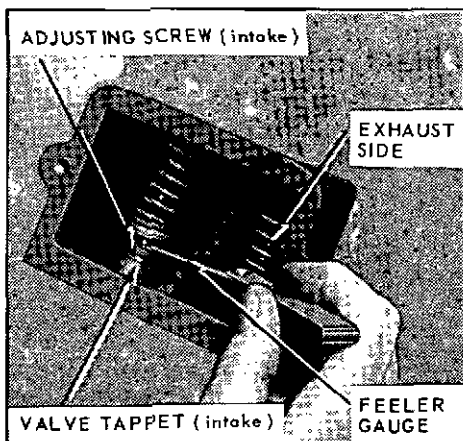

Fig. 14, VALVE TAPPET ADJUSTMENT
**VALVE TAPPET ADJUSTMENT, Fig. 14**